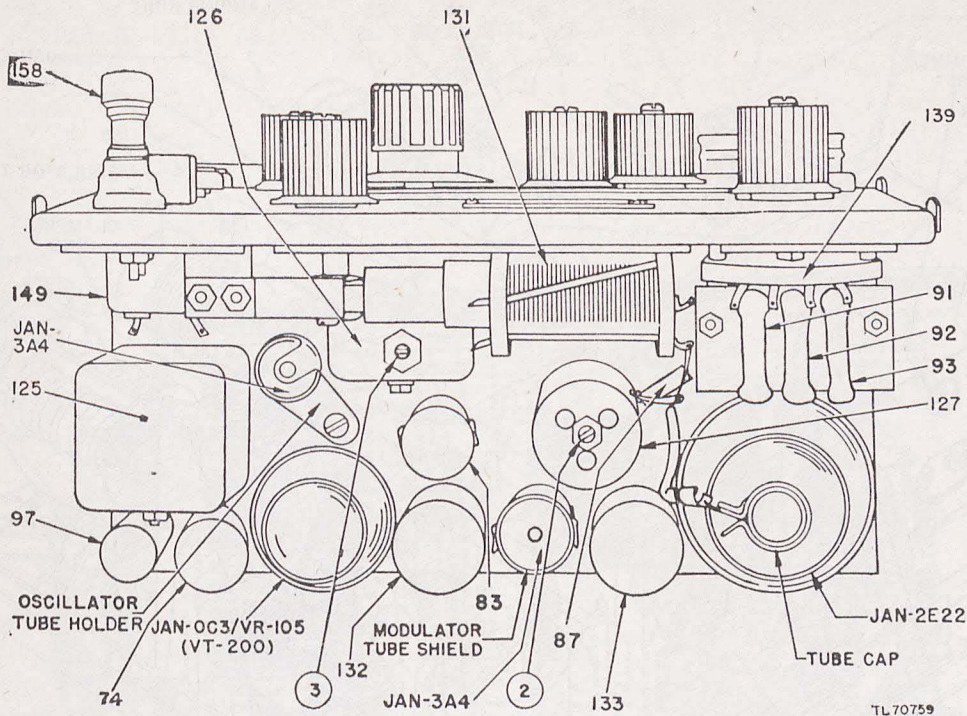

Figure 6. Parts identification of transmitter, top view, of Radio Receiver and Transmitter BC-1306.
c. TUBES. Remove the oscillator tube by loosening the tube holder (fig. 6), and lifting tube out of socket.